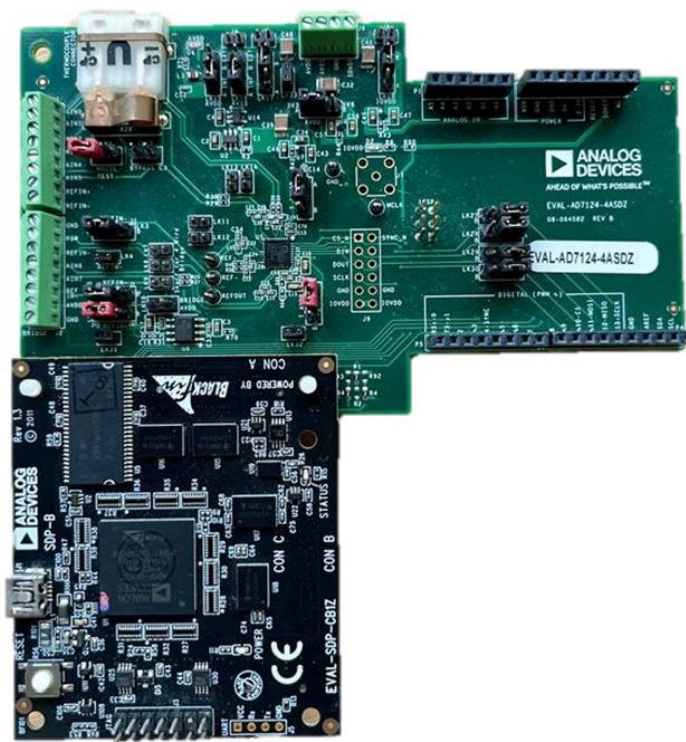

Figure 2. Hardware Configuration, Setting Up the EVAL-AD7124-4ASDZ/EVAL-AD7124-8ASDZ Evaluation Board
3. Screw the two boards together using the plastic screw and washer set included in the evaluation board kit to connect the boards firmly together (see Figure 2 bottom image).